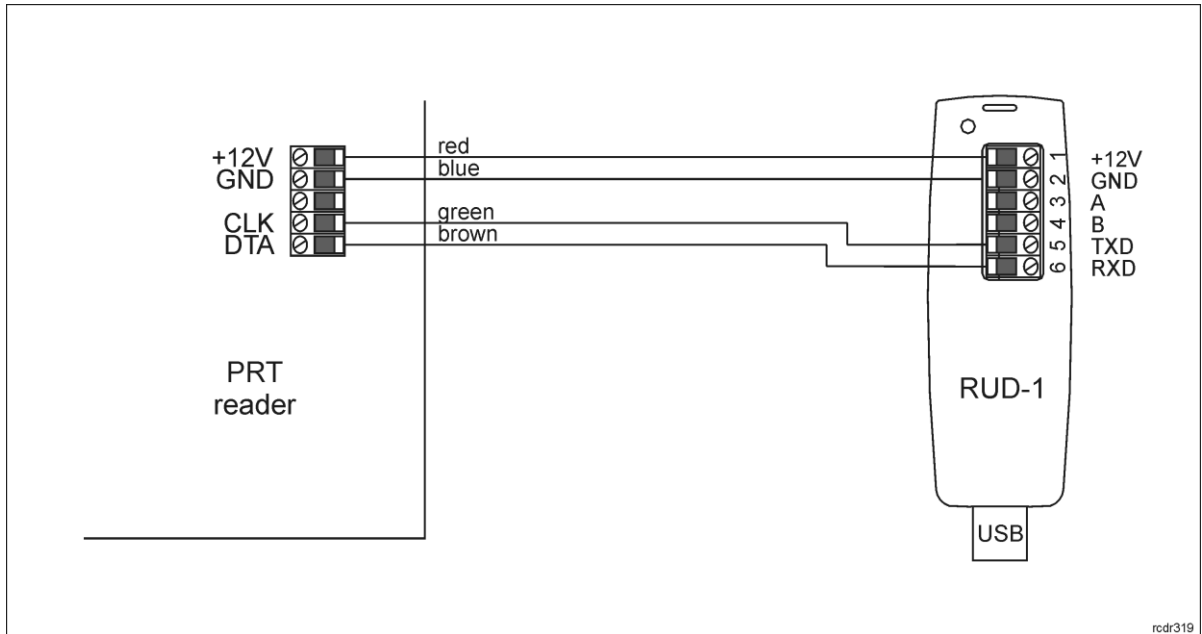

Fig. 3 Connection of reader to RUD-1 interface
To perform this method reader has to be connected to PC via RUD-1 interface (fig. 3) and programmed by means of RogerVDM software which is available at www.roger.pl.
1. Connect the reader to RUD-1 interface (fig. 3) and connect the RUD-1 to computer's USB port.